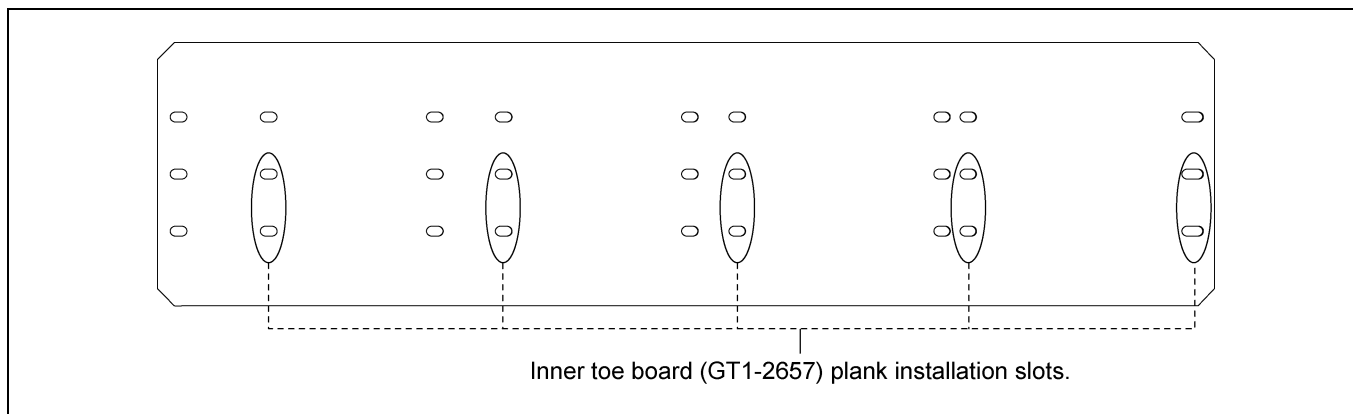

**Figure 6M** Inner Toe Board (GT1-2657) Plank Installation for Offset and Roof Hatch Catwalks
1. Install planks (GT3-1669) to bottom two (2) holes of the inner toe board (GT1-2657) using 3/8"-16 x 1" JS grade 8 or grade 8.2 bolts (S-7485) and 3/8"-16 ZN grade 5 nuts (S-968). (See Figure 6M.)